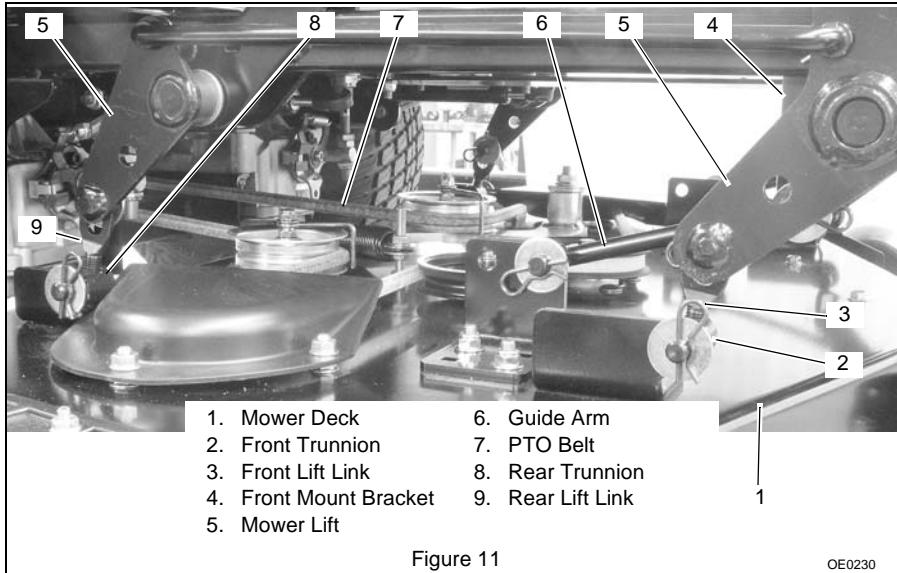

Figure 11
### Remove (Figure 11)
### Install (Figure 11)
5. Remove rear lift link and rear trunnion from mower deck and mower lift (figure 11).
6. Install rear trunnion and rear lift link on mower deck and mower lift (figure 11).
5. Remove front lift link and front trunnion from mower deck and mower lift (figure 11).
6. Install front trunnion and front lift link on mower deck and mower lift (figure 11).